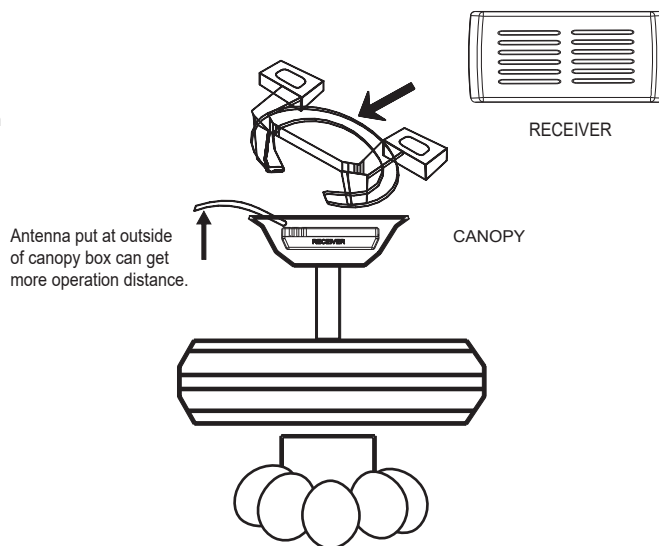

FIG.2
B. Installing receiver in fan: (FIG.2)